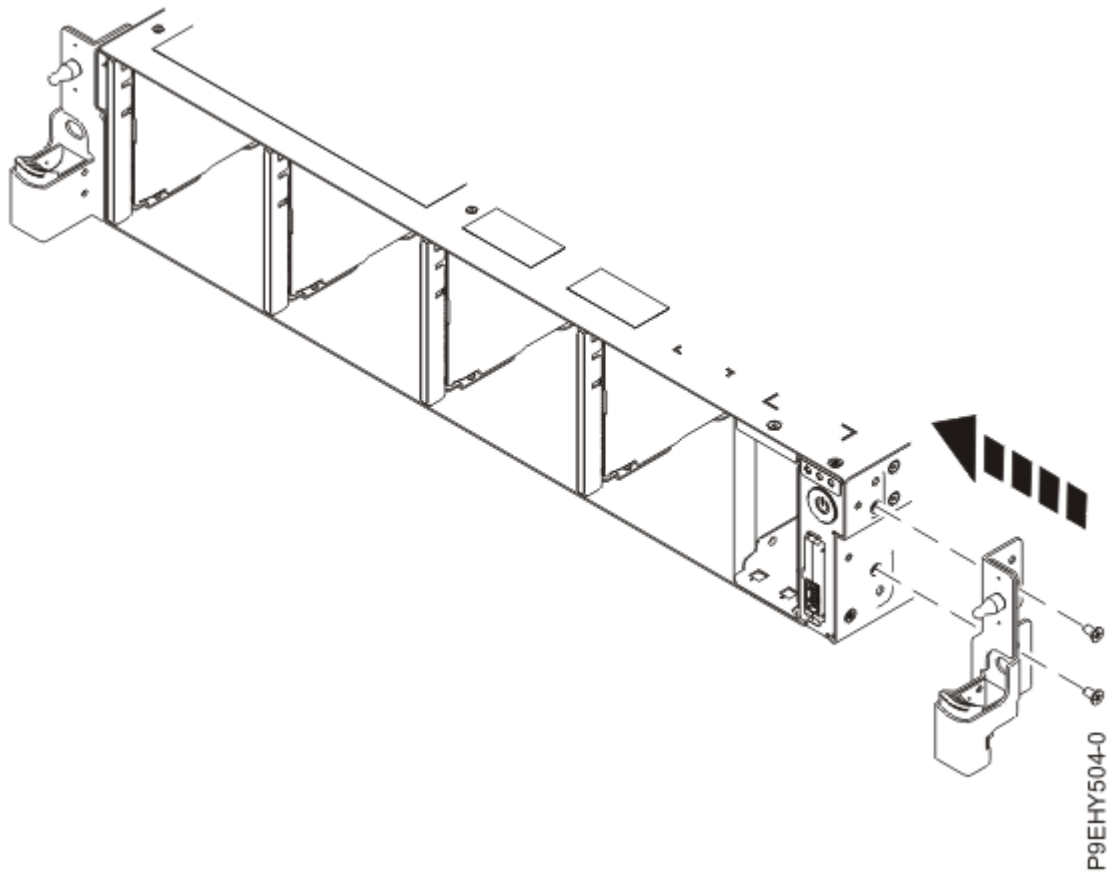

Figure 109. Replacing the rack installation support
7. Replace the rack installation support on the side of the system as shown in Figure 109 on page 129.